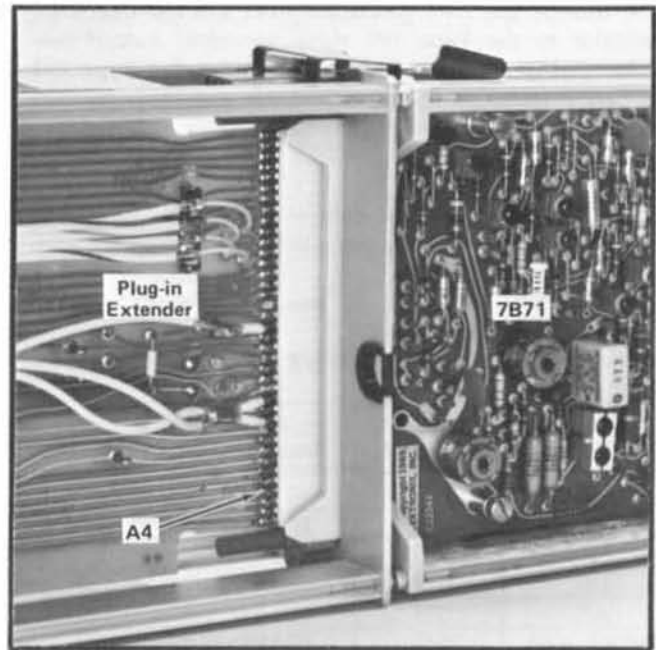

Fig. 5-5. Location of interface connector A4.
b. Connect a probe from the 7A16 Input to interface connector A4 (plug-in connector at the rear of the 7B71). See Fig. 5-5.